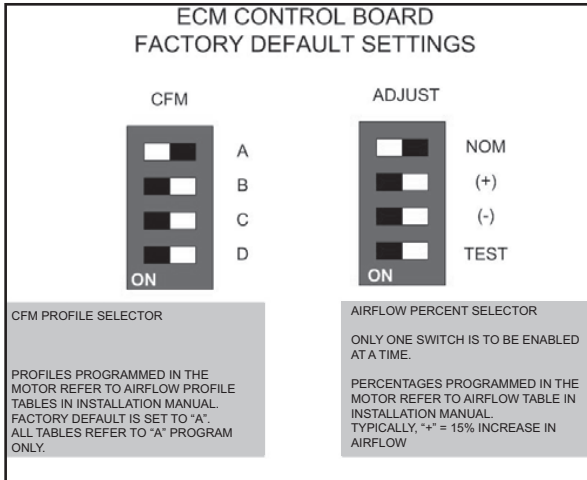

Fig. 18 - Airflow Selector
The airflow selector (see Fig. 13, items 2 and 3 and Fig. 18) allows airflow adjustment to meet application requirements and to ease troubleshooting.
NOTE: Only one switch can be enabled at a time. Refer to Fig. 18 for each airflow setting.